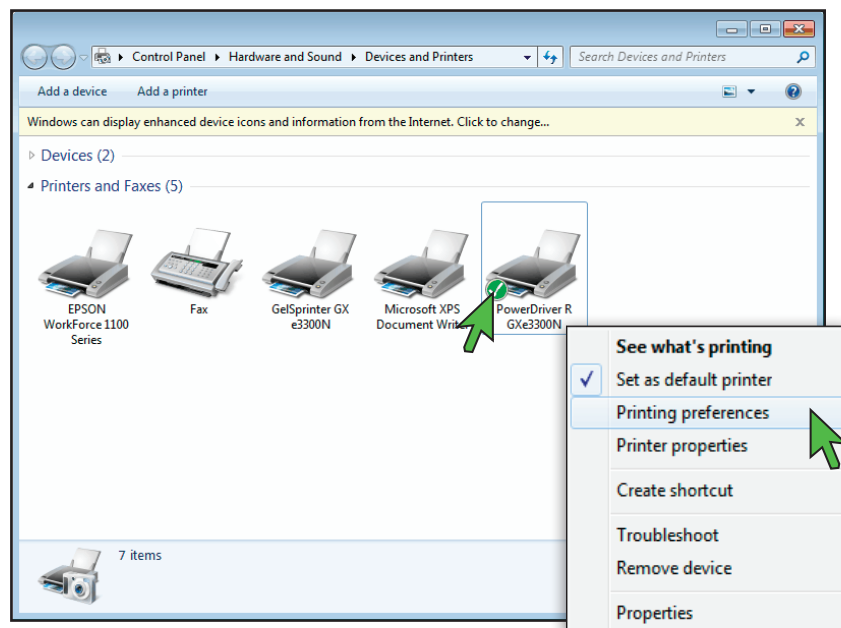

FIGURE 2
2. In the Devices and Printers folder, right-click the **PowerDriver-R GXe3300N** and select **Printing Preferences** (see *FIGURE 2*). This will open the PowerDriver-R GXe3300N Printing Preferences window (see *FIGURE 3*).